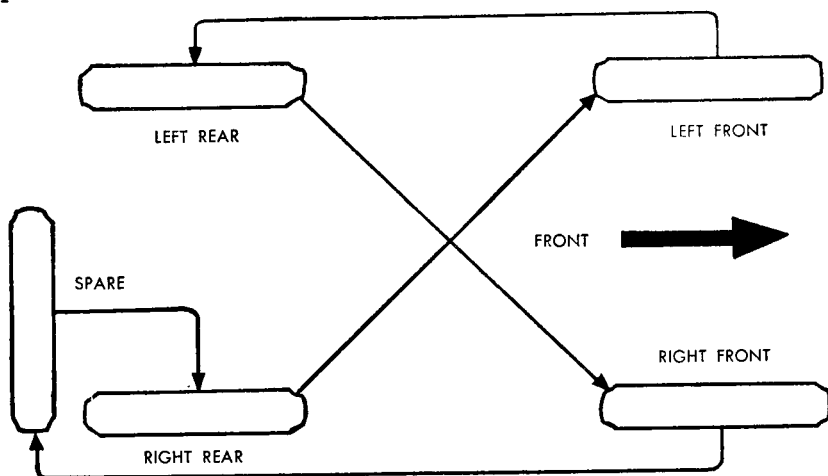

Figure 123. Tire rotation plan.
- (1) Replace any tire with noticeable cut on tread or side wall. Return old tire to ordnance maintenance unit for repair. If uneven wear is indicated, check toe-in adjustment (par. 234). If incorrect toe-in is not the cause, report to ordnance maintenance personnel.
- (2) Check pressures when tires are cold. Dismount any tire showing unusual pressure loss and examine tire tube for cause. Repair tire tube or replace tube or tire if necessary.
- (3) Inflate all tires to equal pressures, as unequal pressures will affect steering and braking adversely. Inflate tires to pressures designated in paragraph 254b. Underinflated tires are easily damaged. Install all valve caps to prevent air loss.
c. Tire Rotation. To maintain equal wear, rotate tires in accordance with the tire rotation plan, shown in figure 123, at intervals of approximately 2,000 miles, if the tactical situation permits.